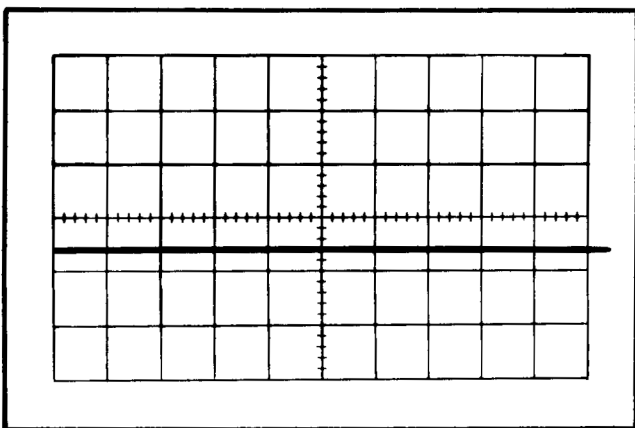

Fig. 5-11. Typical CRT display when checking attenuator isolation ratio and amplifier crosstalk ratio.
e. CHECK—CRT display for 0.1-division deflection, or less (attenuator isolation ratio 10,000:1 or better; see Fig. 5-11).
j. CHECK—CRT display for 0.1-division deflection or less (attenuator isolation ratio 10,000:1 or better; see Fig. 5-11).